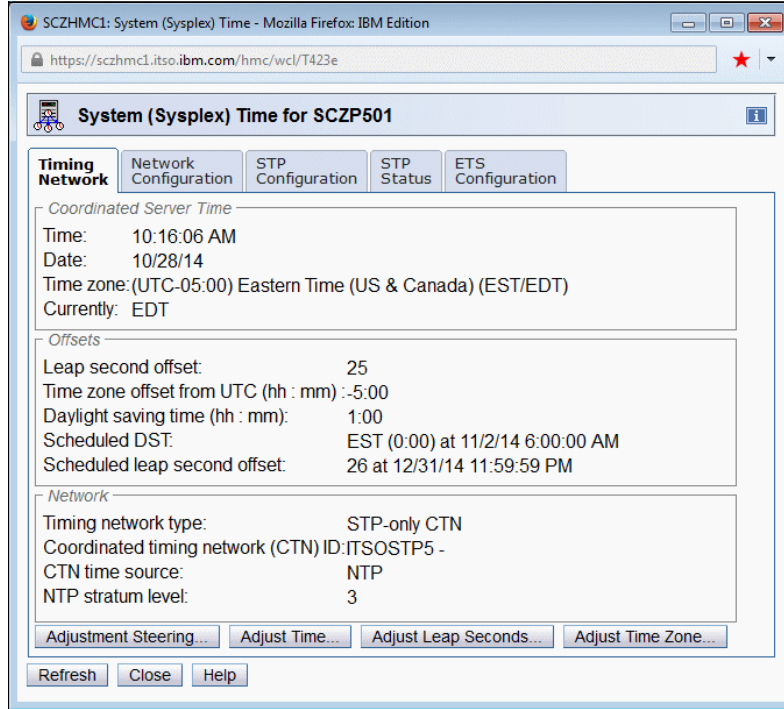

Figure 11-27 Timing Network window with Scheduled DST and Scheduled leap second offset
- ▶ The Timing Network window now includes the next scheduled Daylight Saving Time change and the next leap second adjustment, as shown in Figure 11-27. The schedules that are shown are the ones for the next DLS change (either given per automatic or scheduled adjustment) and for the next Leap Second change (given per scheduled adjustment).
Attention: Figure 11-27 shows a ‘Schedule leap second offset’ change to 26 seconds that is scheduled for 12/31/2014. This is *not* a real leap second released by the International Earth Rotation and Reference System Services. It was temporarily set *only* to show the window appearance.